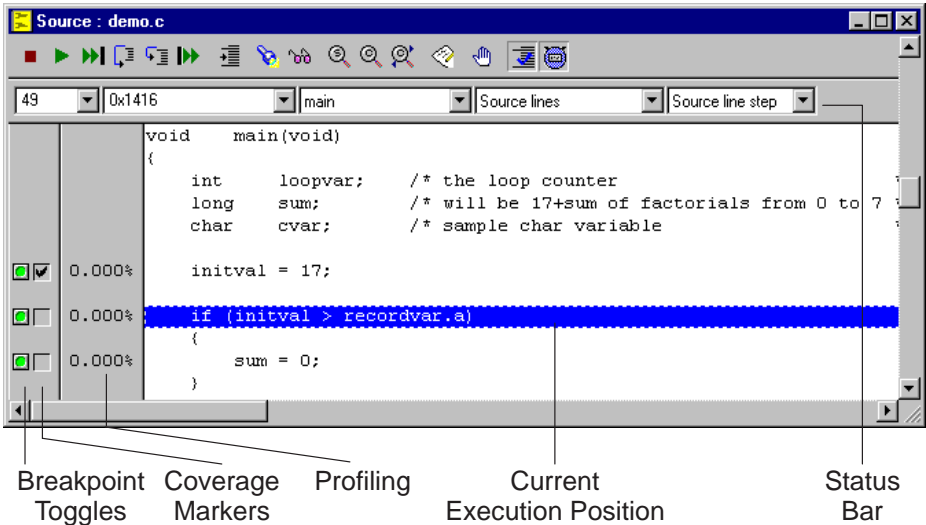

Figure 1-8: Getting Control
- Set a breakpoint at the entry of `main()` by clicking on a breakpoint toggle at the left side of the text in the Source Window. See figure 1-8.
- Click on a breakpoint toggle (as shown in figure 1-8) to set or to remove a breakpoint. A green colored toggle shows that no breakpoint is set. A red colored toggle shows that a breakpoint is installed. An orange colored toggle shows that an installed breakpoint is disabled.